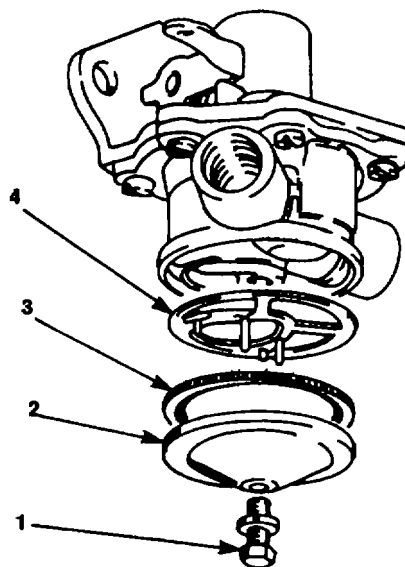

Figure 3-27. Feed Pump Strainer
- a Remove 8mm hex bolt (1, figure 3-27).
- b Take off cover (2).
- c Take out gasket (3) and strainer (4).
- e Replace gasket (3).
- f Reinstall strainer (4), gasket (3), cover (2), and hex bolt (1). Tighten bolt securely.